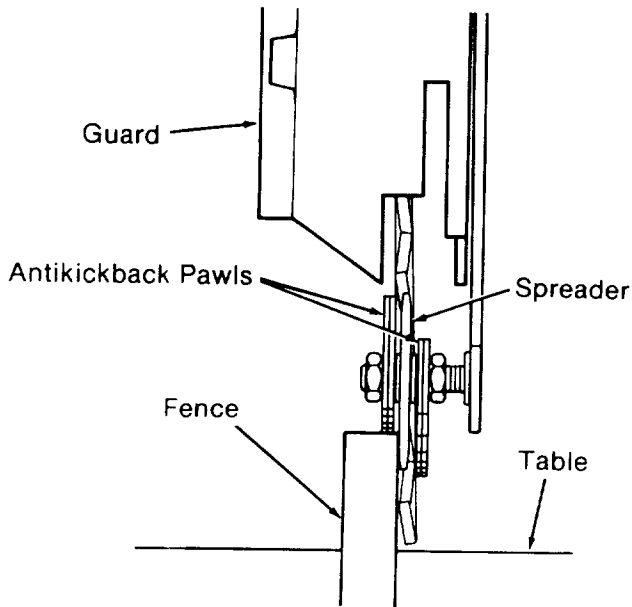

Fig. 80
11. Lower the *spreader* and *antikickback pawls* until the *spreader* is against the *fence*, and the *pawls* on one side of the *spreader* are on top of the *fence*. (Figure 80)